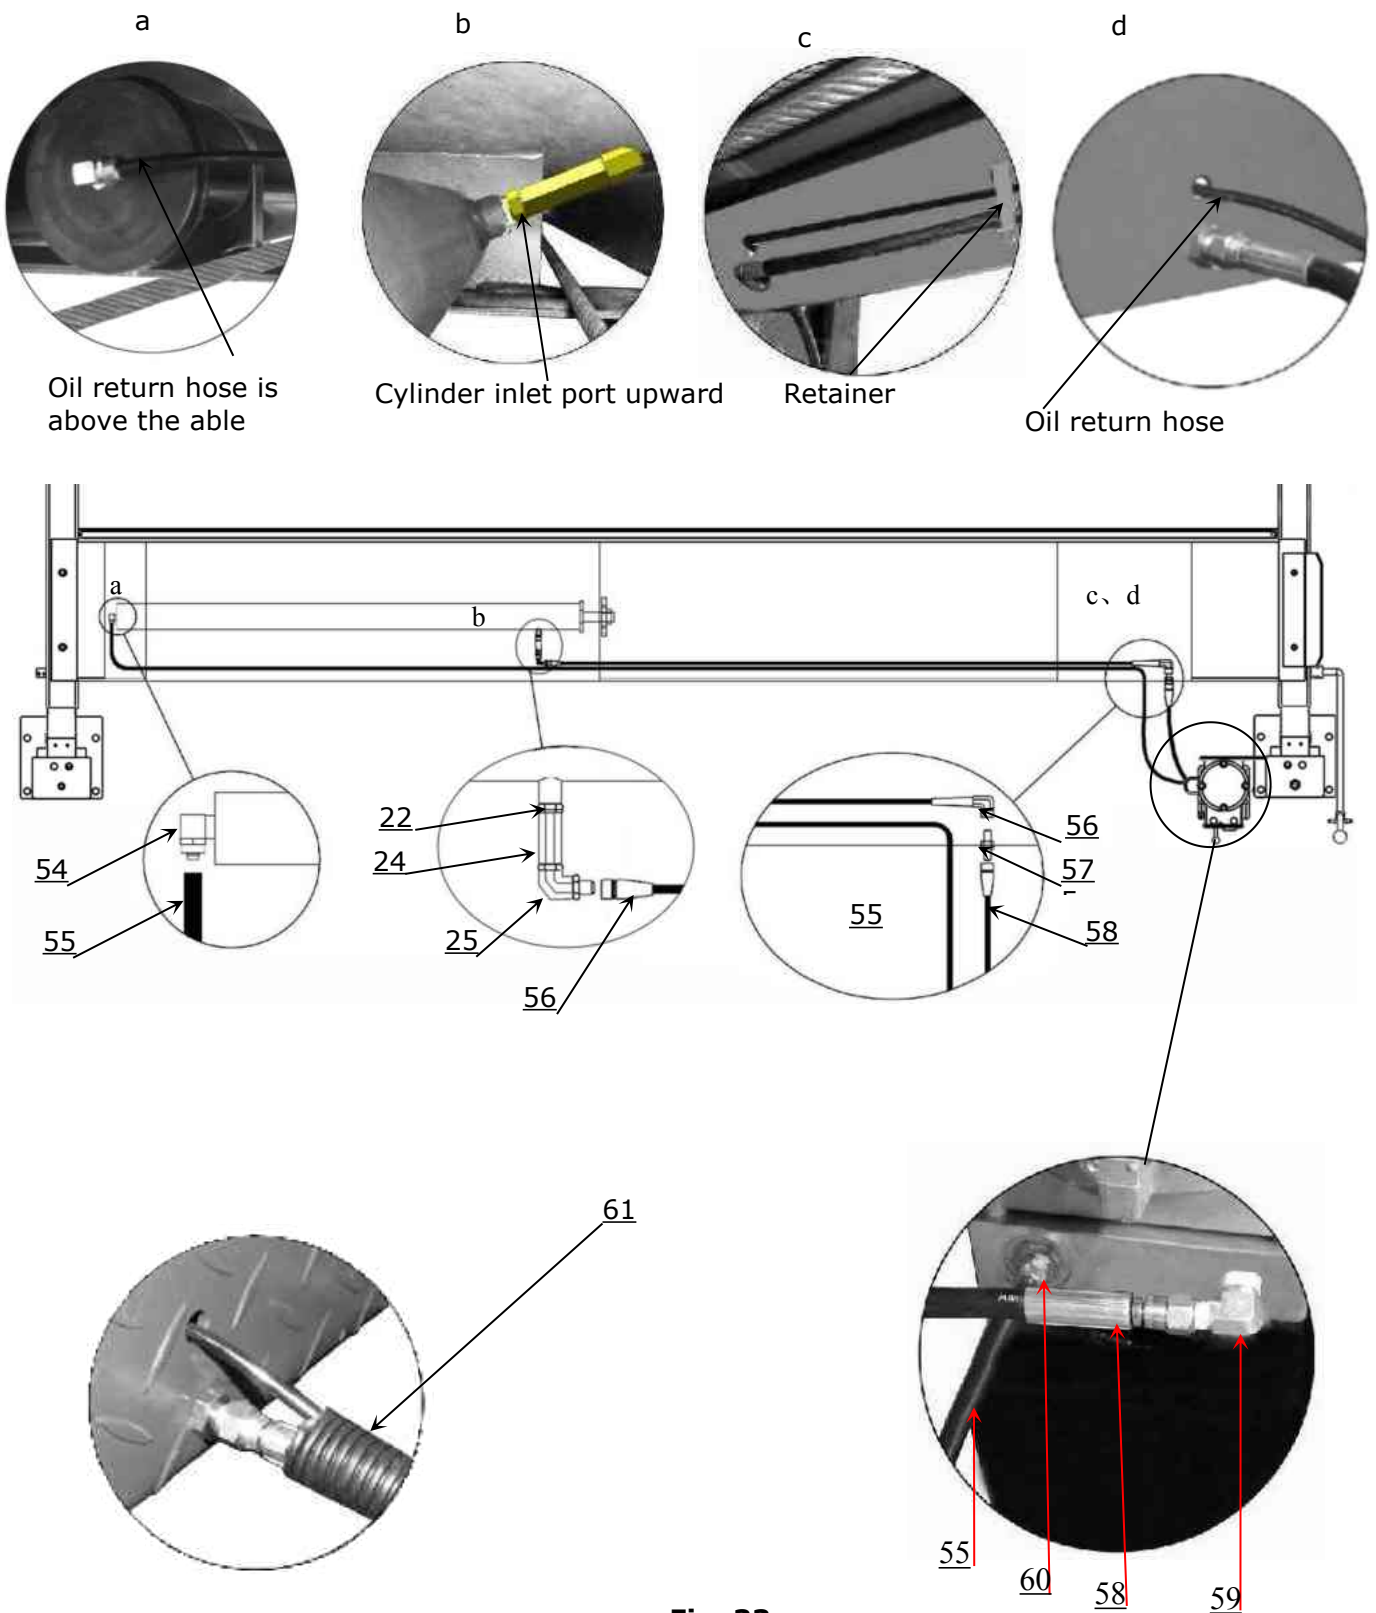

Fig. 33
1. For power unit installed to the column that connected to cross beam A (See Fig. 33)